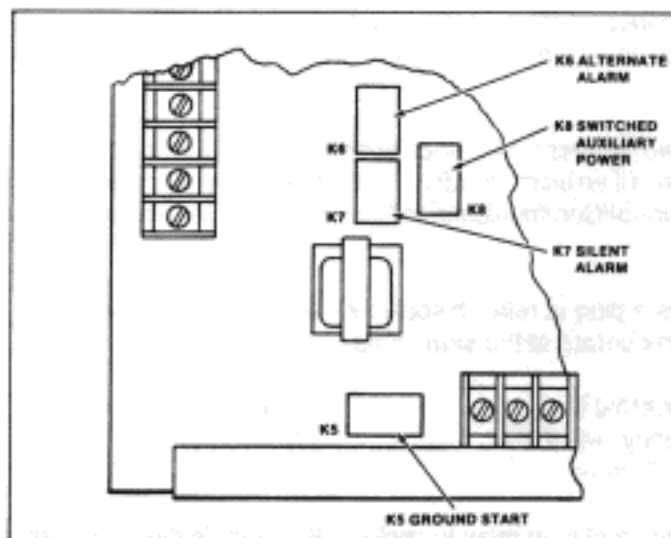

Figure 5. Plug-in Relay Location
**NOTE:** Only three (3) plug-in relays can be installed simultaneously. Sockets K7 and K8 *cannot* be used at the same time. Only one function can be enabled from terminal 8 – either silent alarm output or switched auxiliary power.
**7.2 Location** - DIP sockets are located on the bottom left corner of the D8112 I/O board. Only the ground start socket (K5) is visible when the faceplate/shield is in place. The other three sockets are located under the shield. When the shield is removed, the sockets are positioned as shown in Figure 5.